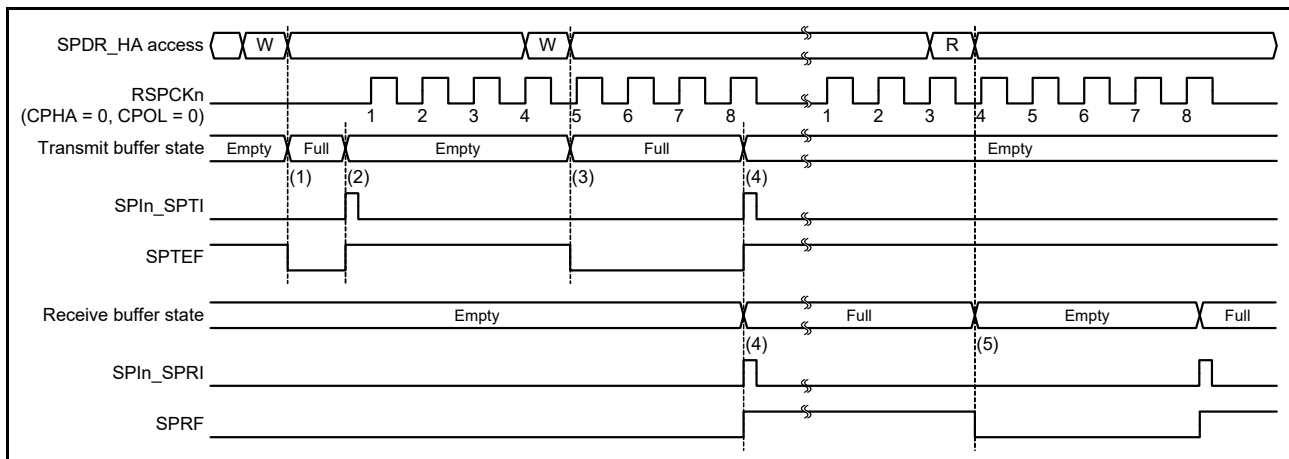
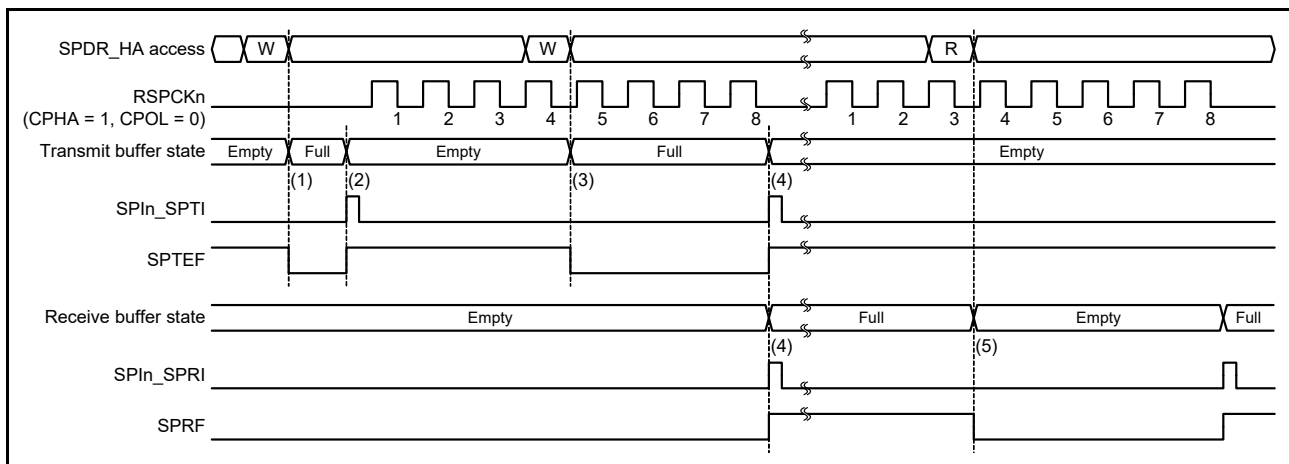

Figure 30.26 Operation example of SPIn_SPTI and SPIn_SPRI interrupts when CPHA = 0 and CPOL = 0
Figure 30.27 Operation example of SPIn_SPTI and SPIn_SPRI interrupts when CPHA = 1 and CPOL = 0
Figure 30.26 and Figure 30.27 show operation examples of the transmit buffer empty interrupt (SPIn_SPTI) and the receive buffer full interrupt (SPIn_SPRI). The register accesses shown in these figures indicate the conditions of access to the SPDR/SPDR_HA register, where W denotes a write cycle and R a read cycle. In Figure 30.26, the SPI performs an 8-bit serial transfer when the SPCR.TXMD bit is 0, the SPCMD0.CPHA bit is 0, and the SPCMD0.CPOL bit is 0.
In Figure 30.27, the SPI performs an 8-bit serial transfer in which the SPCR.TXMD bit is 0, the SPCMD0.CPHA bit is 1, and the SPCMD0.CPOL bit is 0. The numbers given for RSPCKn in the waveform represent the number of RSPCK cycles, such as the number of transferred bits.
The operation of the SPI at timings (1) to (5) in Figure 30.27 is as follows:
- (1) When transmit data is written to SPDR/SPDR_HA with the transmit buffer of SPDR/SPDR_HA empty and data for the next transfer not set, the SPI writes data to the transmit buffer and clears the SPSR.SPTEF flag to 0.
- (2) If the shift register is empty, the SPI copies data in the transmit buffer to the shift register, generates a transmit buffer empty interrupt request (SPIn_SPTI), and sets the SPSR.SPTEF flag to 1. How a serial transfer is started depends on the SPI mode. For details, see section 30.3.10, SPI Operation, and section 30.3.11, Clock Synchronous Operation.
- (3) When transmit data is written to SPDR/SPDR_HA either by the transmit buffer empty interrupt routine, or by the processing of the transmit buffer empty using the SPTEF flag, the SPI writes data to the transmit buffer and clears the SPTEF flag to 0. Because the serially transferred data is stored in the shift register, the SPI does not copy the data in the transmit buffer to the shift register.
- (4) When the serial transfer ends with the SPDR/SPDR_HA receive buffer empty, the SPI copies the receive data in the shift register to the receive buffer, generates a receive buffer full interrupt request (SPIn_SPRI), and sets the SPRF flag to 1. Because the shift register is empty on completion of the serial transfer, when the transmit buffer was full before the serial transfer ended, the SPI sets the SPTEF flag to 1 and copies data in the transmit buffer to the shift register. Even when received data is not copied from the shift register to the receive buffer in an overrun error status, on completion of the serial transfer, the SPI determines that the shift register is empty, so data transfer from the transmit buffer to the shift register is enabled.
- (5) When SPDR/SPDR_HA is read either by the receive buffer full interrupt routine or by the processing of the receive buffer full interrupt using the SPRF flag, the receive data can be read.